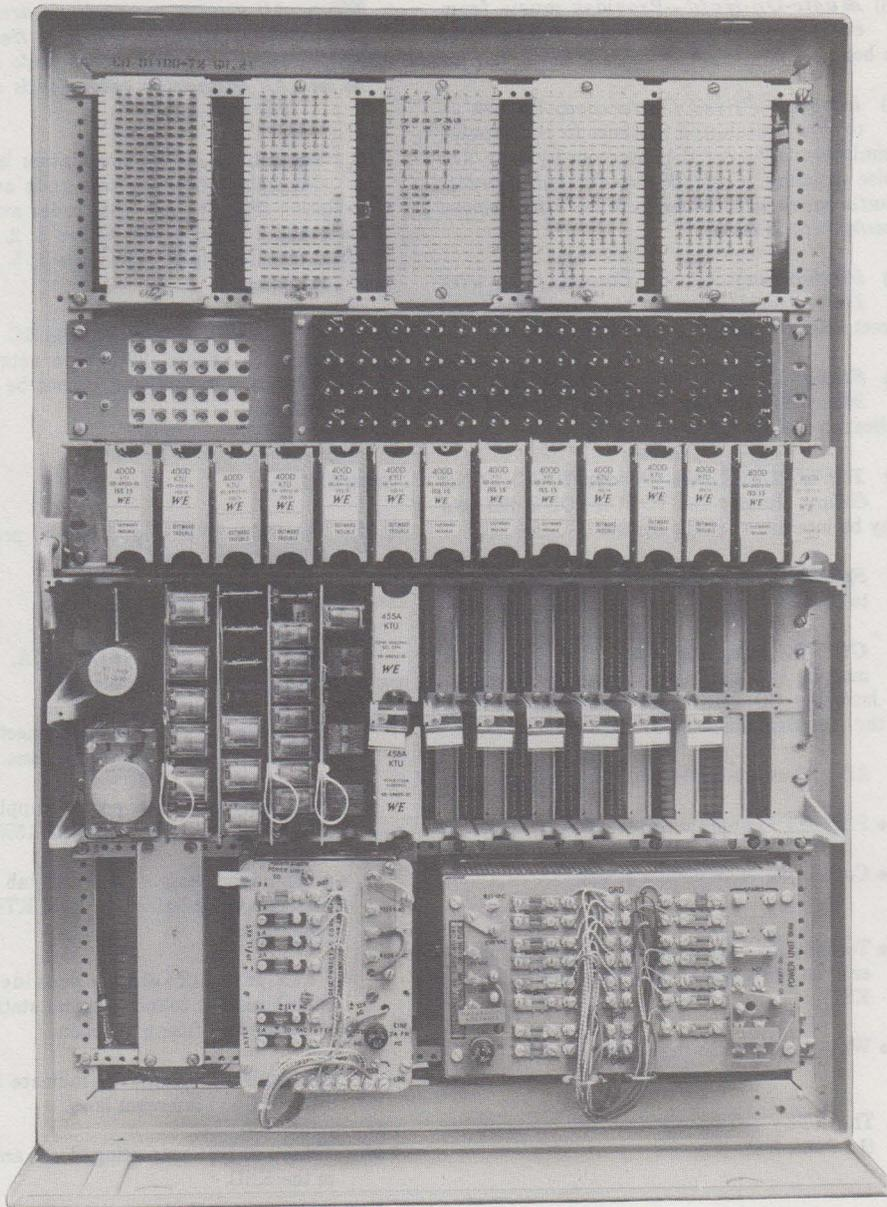

Fig. 1—580A KSU (Cover Removed)
2.03 The KTUs and power unit are mounted in the 580A KSU (Fig. 1).
2.07 The 580A KSU (Fig. 1 and 2) provides the following features: